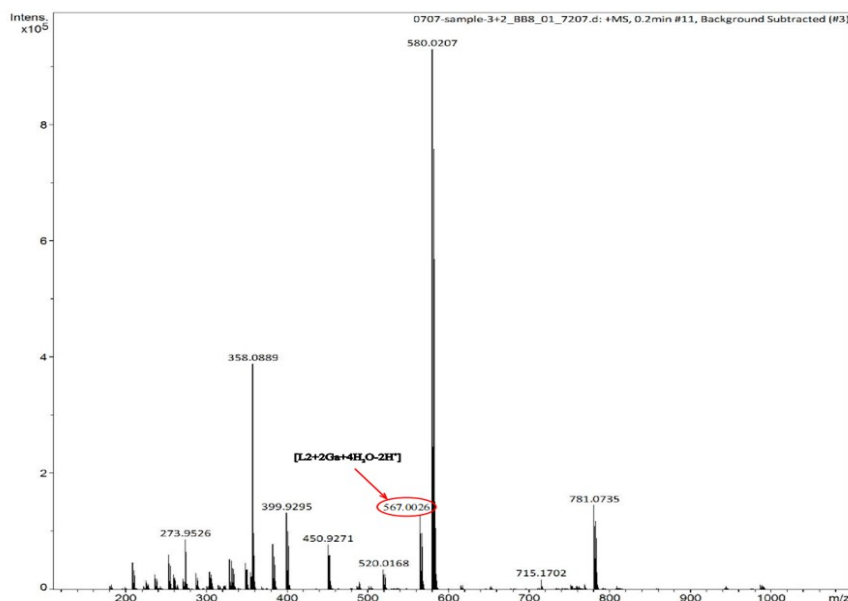

Figure S15. ESI-MS of L2 with addition of Ga^{3+} .
15. **Figure S15.** ESI-MS of **L2** with addition of Ga^{3+} .